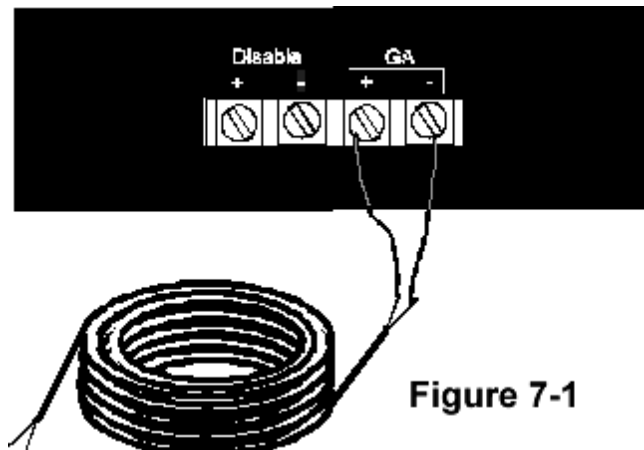

Figure 7-1
7a. Air switch installation. Locate the air switch next to the garage door opener's existing photo eye mechanism with the air hose connector facing the door opening. Attach one end of each wire, Item (2) to the normally closed terminals of the air switch, Item (13a). Attach the air switch to the wall using screws (not provided). Run the wire from the air switch to the Doorminder unit, attaching the wire to the wall and ceiling using insulated staples (not included). Approximate the length of the wire needed to connect to the Doorminder unit. Add 1 foot to this approximation and cut the wire. Strip the wires on this end of Item (2) and attach one of the wires to each of the screw terminals labeled 'GA +/-' on the Doorminder unit. (Either wire can be connected to either terminal) (**Fig. 7-1**). Next, route the treadle air hose to the air switch. Measure the garage door opening and trim the length of the air hose so that it runs the distance of the opening when connected to the air switch. Place the air hose plug in one end of the air hose and secure. Attach the other end of the air hose to the air switch and secure. Secure the air hose so that it runs **directly below** the photo eye mechanism.
7b. Motion detector installation. Follow the instructions in the motion detector manual for setup of the motion detector. Locate the motion detector so that its beam intersects with the path of entering/exiting vehicles. Once the motion detector is set up properly, run the wire from the motion detector's normally closed terminals to the Doorminder unit, attaching the wire to the wall and ceiling using insulated staples (not included). Approximate the length of the wire needed to connect to the Doorminder unit. Add 1 foot to this approximation and cut the wire. Strip the wires on this end of Item (2) and attach one of the wires to each of the screw terminals labeled 'GA +/-' on the Doorminder unit. (Either wire can be connected to either terminal) (**Fig. 7-1**)